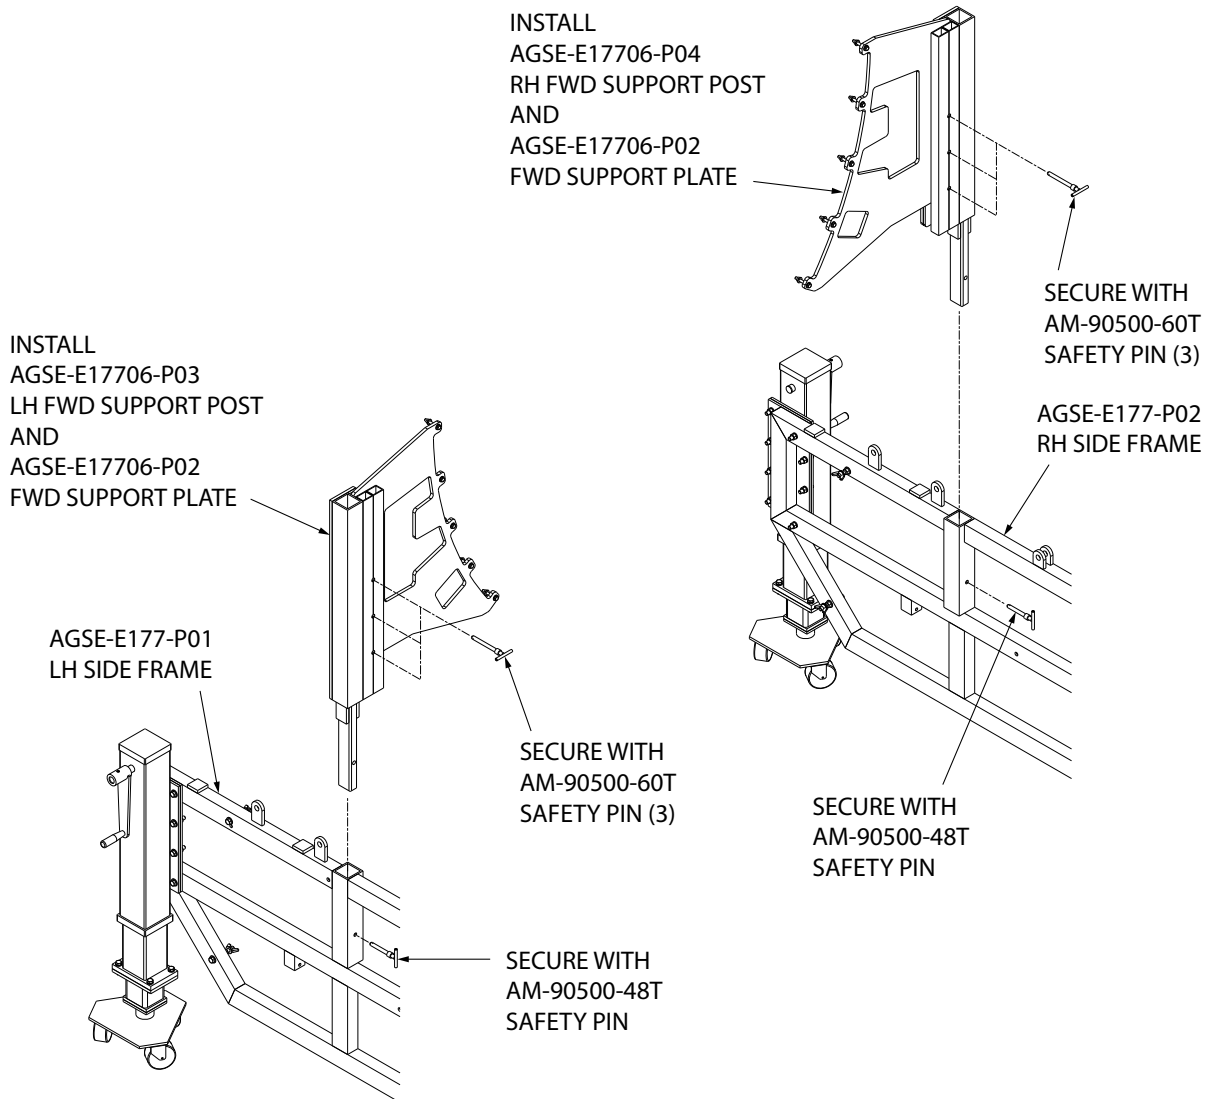
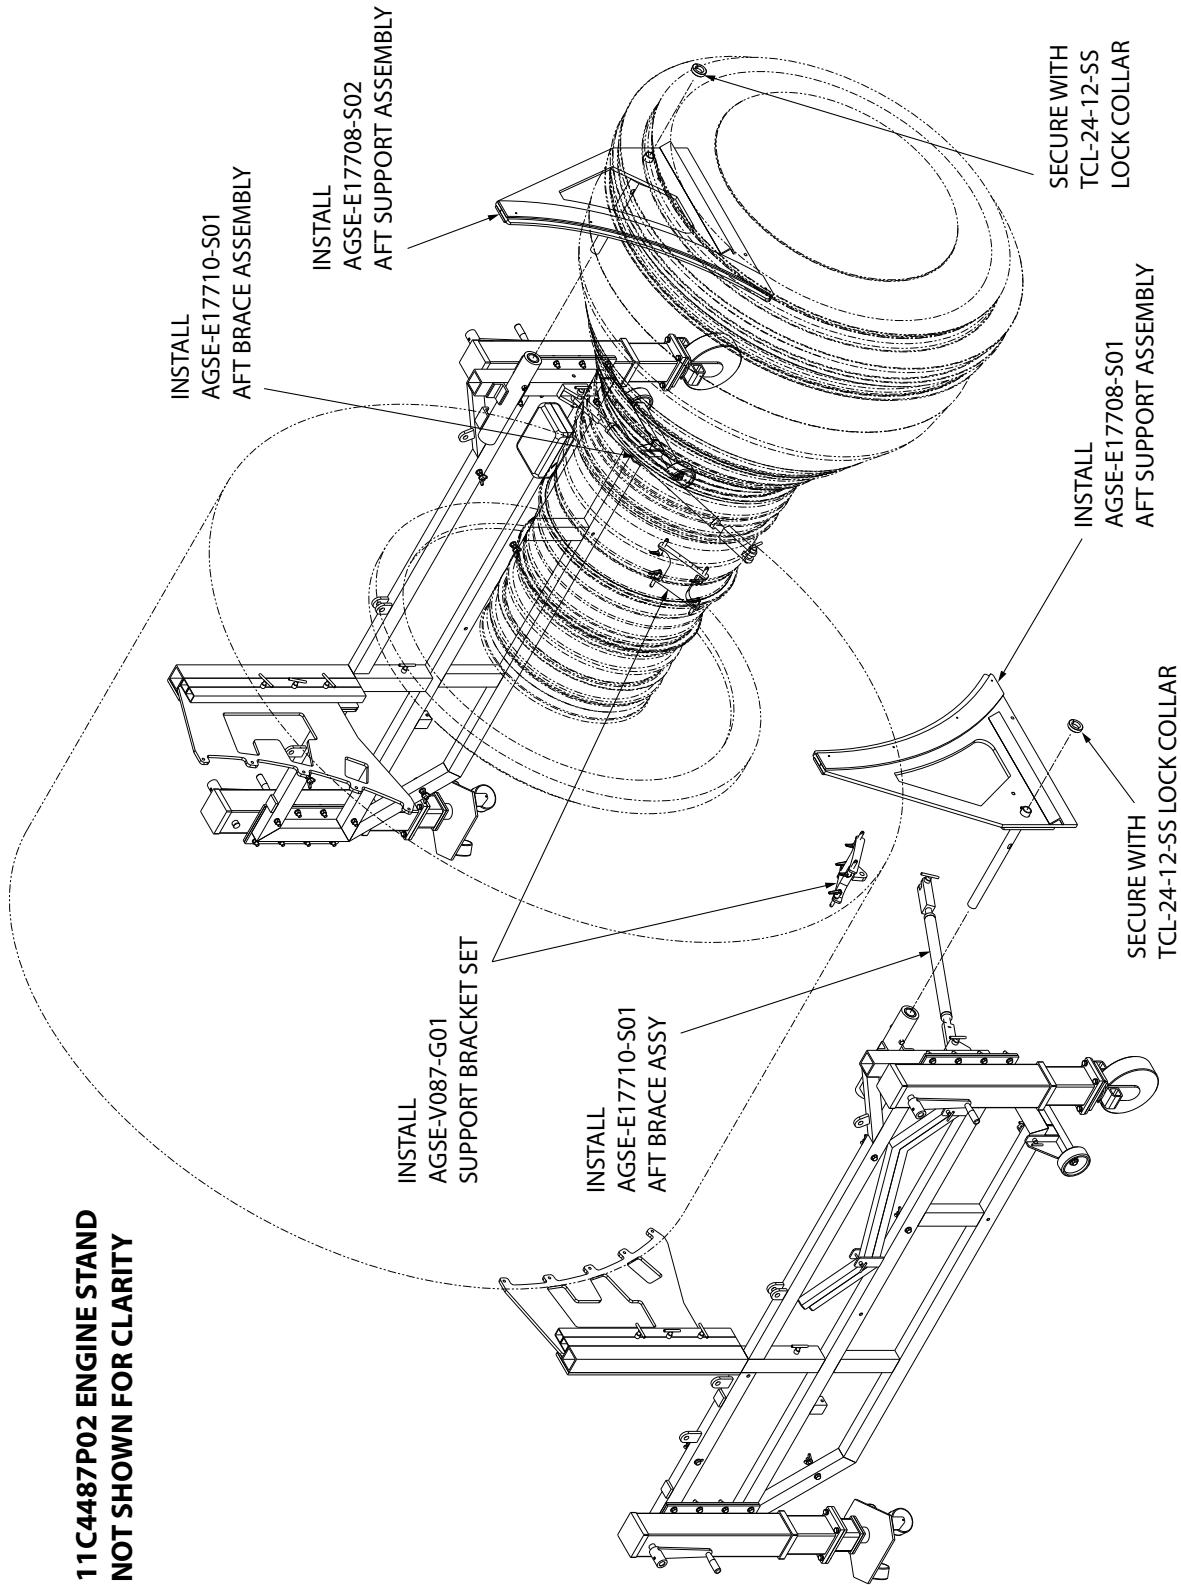

Figure 5.1-2 FWD Support Posts and Support Plates Installation
Figure 5.1-3 AFT Braces and AFT Support Assemblies Installation
2. Remove the AGSE-E17706-P03 LH and AGSE-E17706-P04 RH FWD support post from the storage position by removing six (6) AM-90500-60T safety pins then install them on the side frames. Secure with two (2) AM-90500-48T safety pins.
3. Remove the two (2) AGSE-E17706-P02 FWD support plates from the storage position by removing four (4) wing nuts and four (4) flat washers.
4. Install the FWD support plates on the FWD support posts and secure using six (6) AM-90500-60T safety pins (Figure 5.1-2).
8. Remove the AGSE-V087-G01 support bracket set (AGSE-V087-P01 - LH and AGSE-V087-P02 - RH) from storage position and install on the fan case flange using eight (8) AGSE-V087-S04 pins.
9. Remove the two (2) AGSE-E17710-S01 AFT brace assemblies from the storage position by removing two (2) AM-90750-38T and two (2) AM-90750-32T safety pins.
10. Install the brace assemblies on the side frames using two (2) AM-90750-38T safety pins.
11. Remove the AGSE-E17708-S01 LH and AGSE-E17708-S02 RH AFT support assemblies from the storage position and install on the side frames. Secure with two (2) lock collars (Ruland P/N TCL-24-12-SS or McMaster-Carr P/N 6438K94) (Figure 5-1-3).